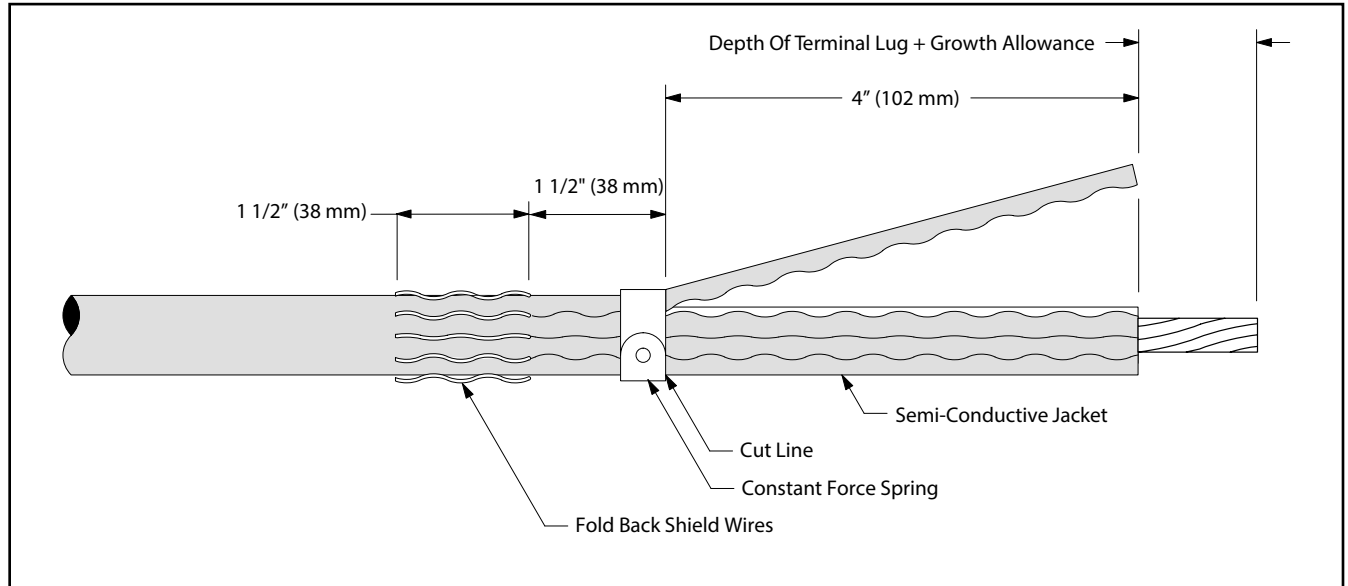

Figure 18
12.5 Remove semi-conductive jacket to dimension shown in *Figure 18*.
NOTE: To ease jacket removal, install constant force spring as shown in *Figure 18* and ring cut 80% through jacket. Remove jacket sections by pulling against constant force spring. **DO NOT BELL SEMI-CON JACKET.** Remove constant force spring.